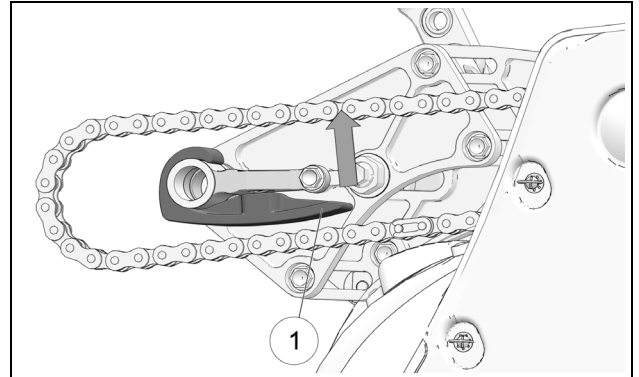

Figure 42
- Lift automatic chain tensioner (1) off the chain and keep it up (e. g. with a zip tie) to avoid adding tension to the chain during adjustment. See Figure 42.